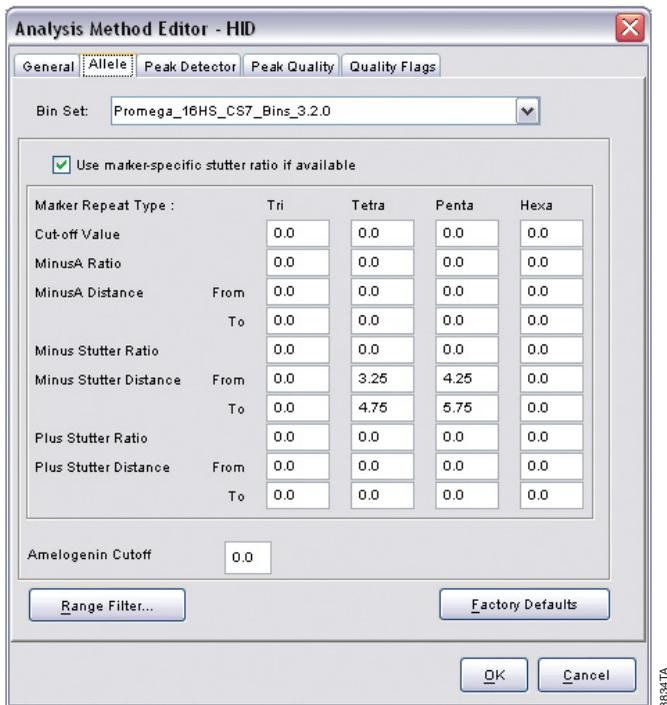

Figure 7. The Allele tab.
6. Select the Allele tab (Figure 7).
9. Enter the values shown in Figure 7 for proper filtering of stutter peaks when using the PowerPlex® CS7 System. For an explanation of the proper usage and effects of these settings, refer to the Applied Biosystems user bulletin titled “Installation Procedures and New Features for GeneMapper ID Software 3.2”.